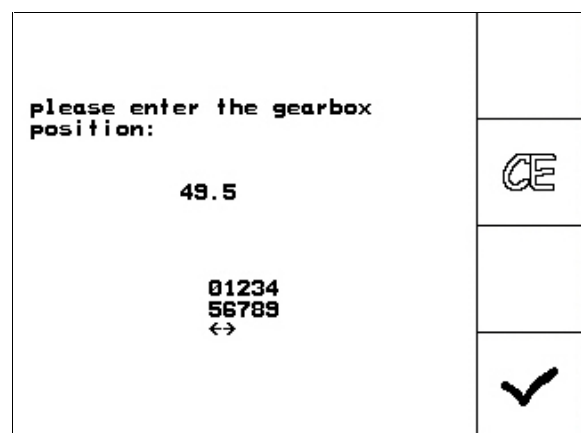

Fig. 49
-  Confirm the setting and enter the figure that is indicated, on the scale, by the gearbox setting lever in the now open input block (Fig. 49).